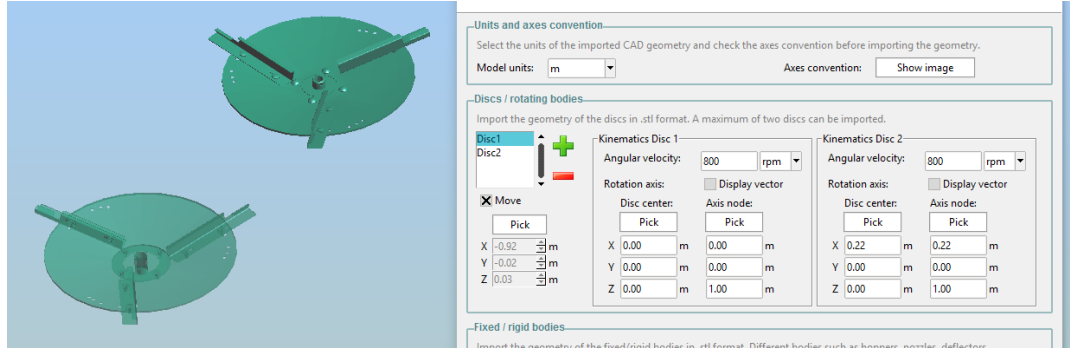

Figure 9. Two spinning discs imported.
- **Import / erase bodies:** the model can be exported as a STL file format from any CAD software and imported to SpreadDEM. You can import the rotating bodies by clicking the “+” button, and erasing them with the “-” button. A total of two discs can be imported (Figure 9).